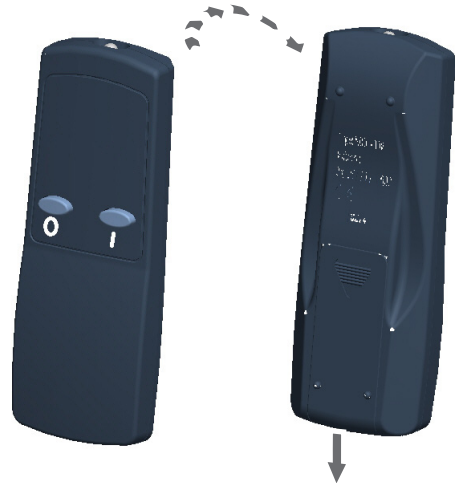

Fig.7
There are 2 buttons on the remote control. (See Fig.7)
1. Unclip the battery cover on the back of the remote control. (See Fig.7)